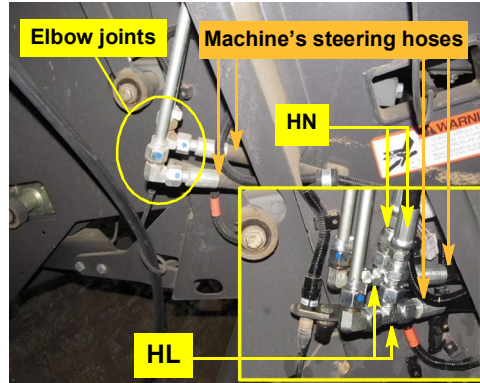

Figure 5a: LEO run-tees installed, steering hoses reconnected/connected
- a. Locate the elbow joints in the steering lines forward of the rear axle on the left side (Figure 5a, circled).
- b. Disconnect the machine's steering hoses, connect the fixed swivels of LEO run-tees **HL** to the machine's steel lines and reconnect the machine's hoses to the uncapped open 'T' ends of **HL**. Connect the #12 end of each steering hose **HN** to the uncapped stem of **HL** (Figure 5a inset).